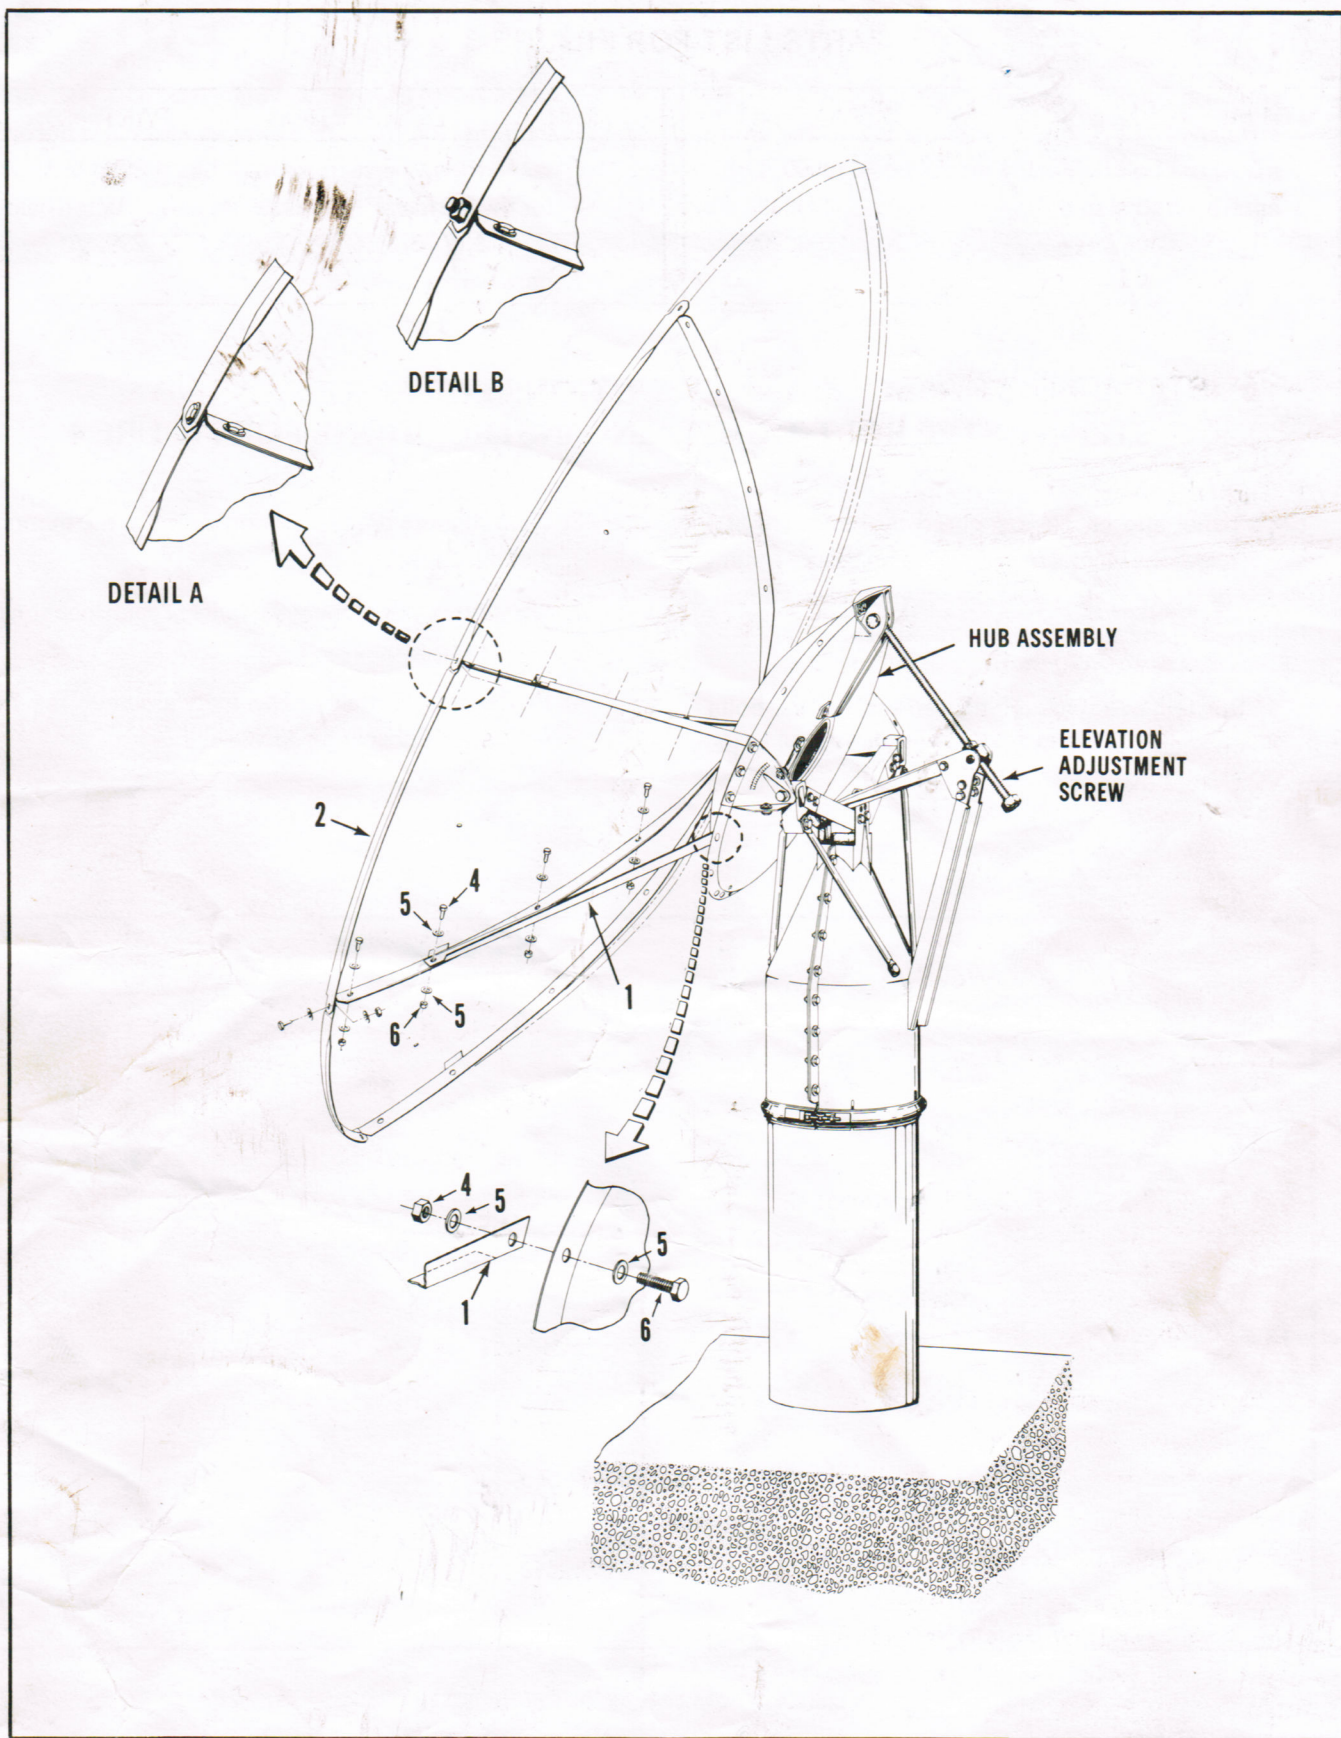

Figure 3. Assembly of Panel Braces and Dish Panels to Hub
## PARTS LIST FOR FIGURE 3
**The flanges at the perimeter of two panels should mate together as shown in detail A of figure 3. If a 3.2 meter extender kit is being installed with your 2.8 meter reflector at this time, insert the outside flange bolts with threads facing out as shown in detail B.**
7. Install all remaining hardware for each panel as shown in figure 3, but do not tighten. If you are not installing the 3.2 meter extender kit at this time, follow the bolt tightening instructions below. Otherwise, go to step 8.